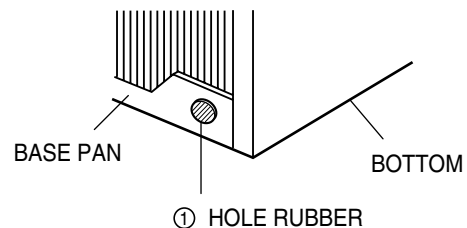
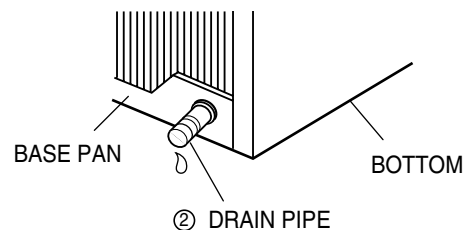

Figure 20
Figure 21
If the air conditioner is used in hot and a high humidity zone, exchange the ① HOLE RUBBER for the ② DRAIN PIPE. (See figure 20, figure 21.)